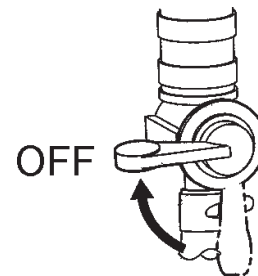

Figure 19. Fuel Valve Lever (OFF)
3. Place the **fuel shut-off lever** (Figure 19) in the **OFF** position.